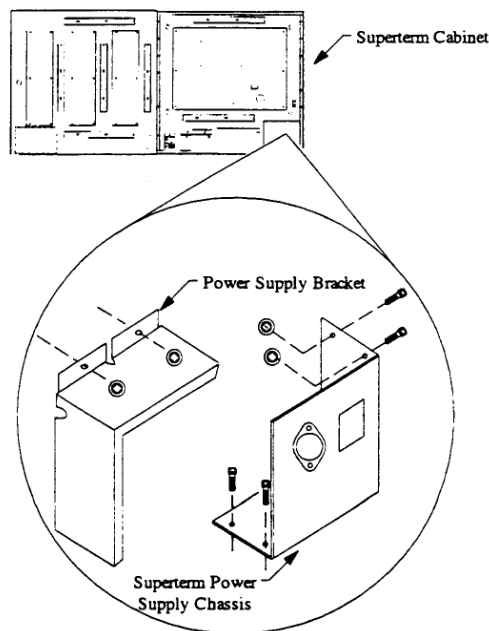

Figure 56 - Superterm Power Supply Replacement
- 1) Open the Superterm cabinet and locate the 12VDC power supply in the lower right-hand corner of the cabinet (see Figure 56).